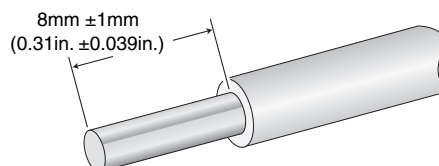

Figure 21. Stripped Wire
- With a 14-gauge wire-stripping tool, strip the three wires in the tray cable coming from the DC input power source to 8 millimeters  $\pm$  1 millimeters (0.31 inches  $\pm$  0.039 inches), as shown in Figure 21.